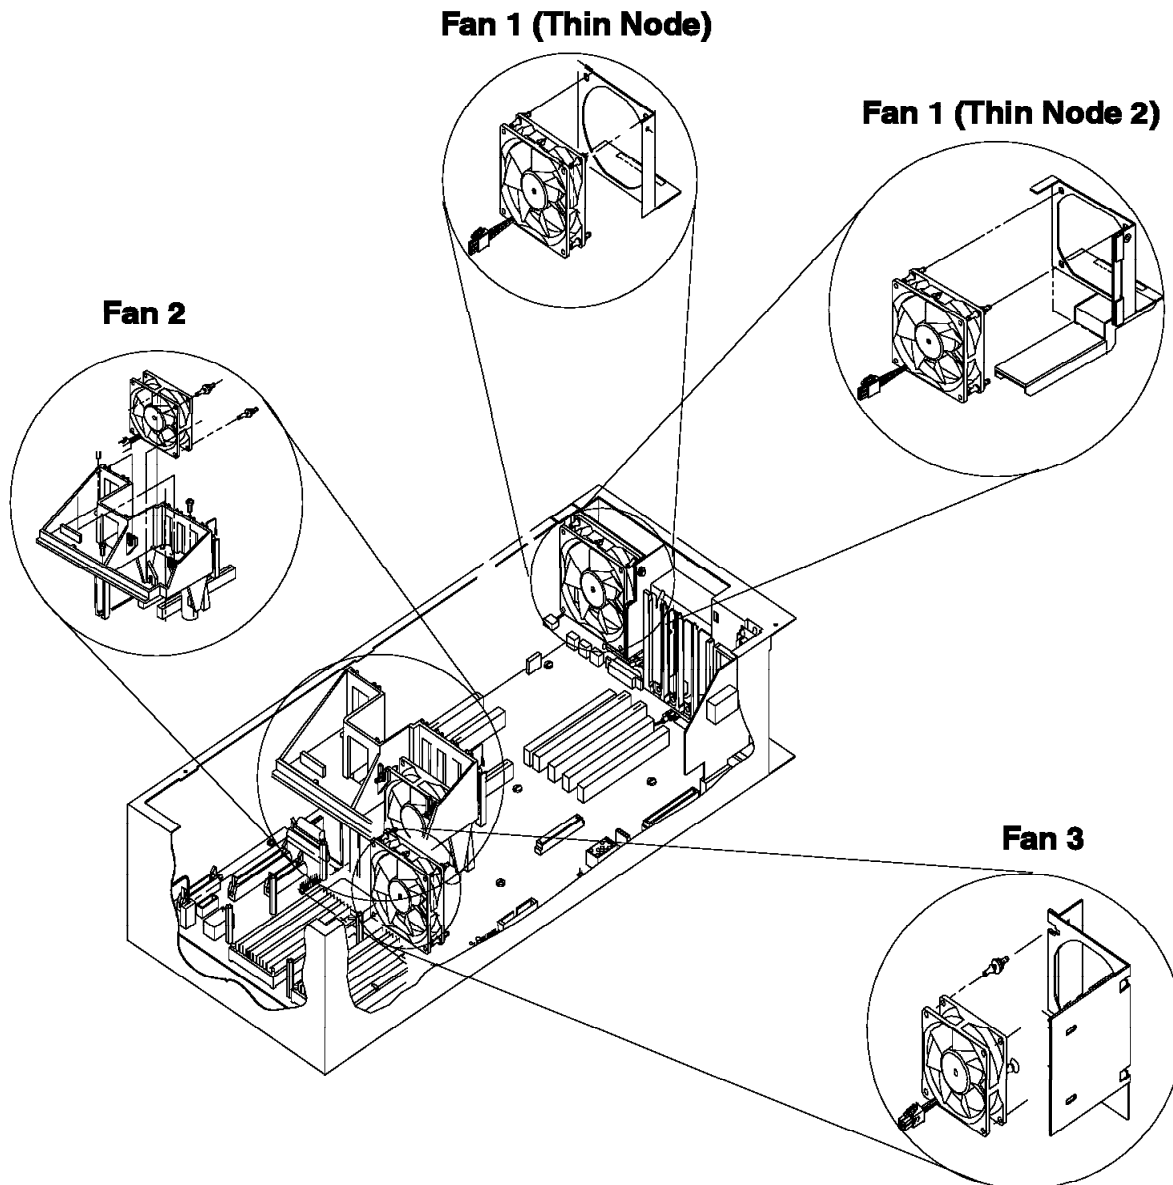

Figure 3-16. Fans 1, 2, 3 Assembly
4. Position fan bracket in orientation shown in Figure 3-16, line up bracket edge with chassis guide, then push down to locate.